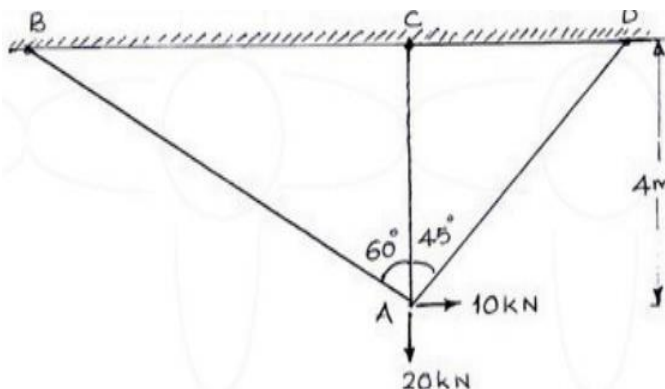

Fig. Q10
10. Analyse the pin jointed truss as shown in Fig. Q10. Take cross-sectional areas for all the members 1000 mm^2 and $E=200 \text{ kN/mm}^2$ 20 (3 : 5 : 2.2.1)